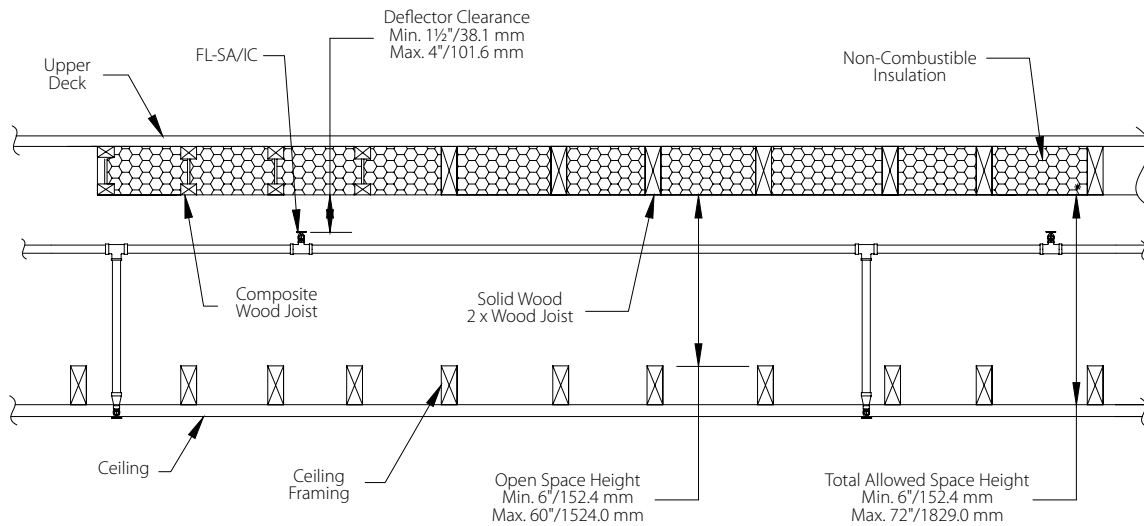

FIGURE 4
#### Unobstructed Wood or Steel Open Truss Construction and Solid or Composite Wood Joist Construction Where the Upper Deck is Filled with Non-Combustible Insulation (Figures 4 and 5)
**Deflector Position:** The vertical sprinkler deflector clearance to the bottom of the upper deck surface is 1 ½"/38.1 mm minimum to 4"/101.6 mm maximum (refer to Figure 4 and 5, Deflector Clearance). The sprinkler must be installed only in the upright position. The sprinkler deflector must be installed parallel with the plane of the roof.